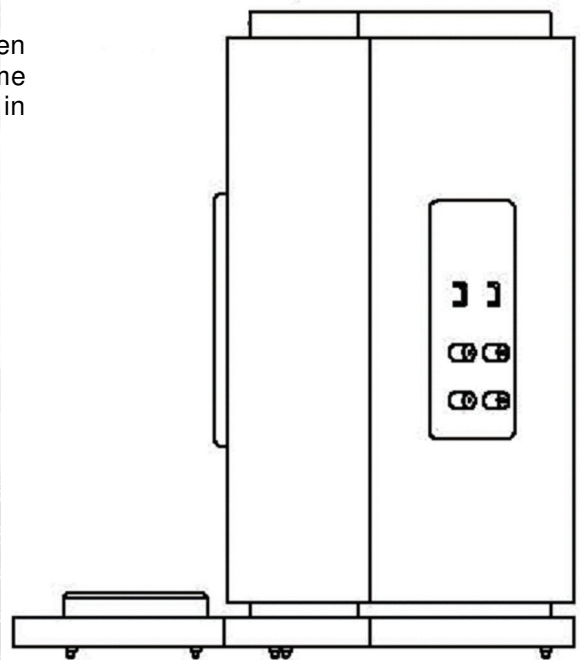

Figure 4. Lower Module with Distance Frame
3. Replace any grills that have been removed and then place the distance frame on top of the lower module as shown in figure 4. Ensure that it is properly seated.